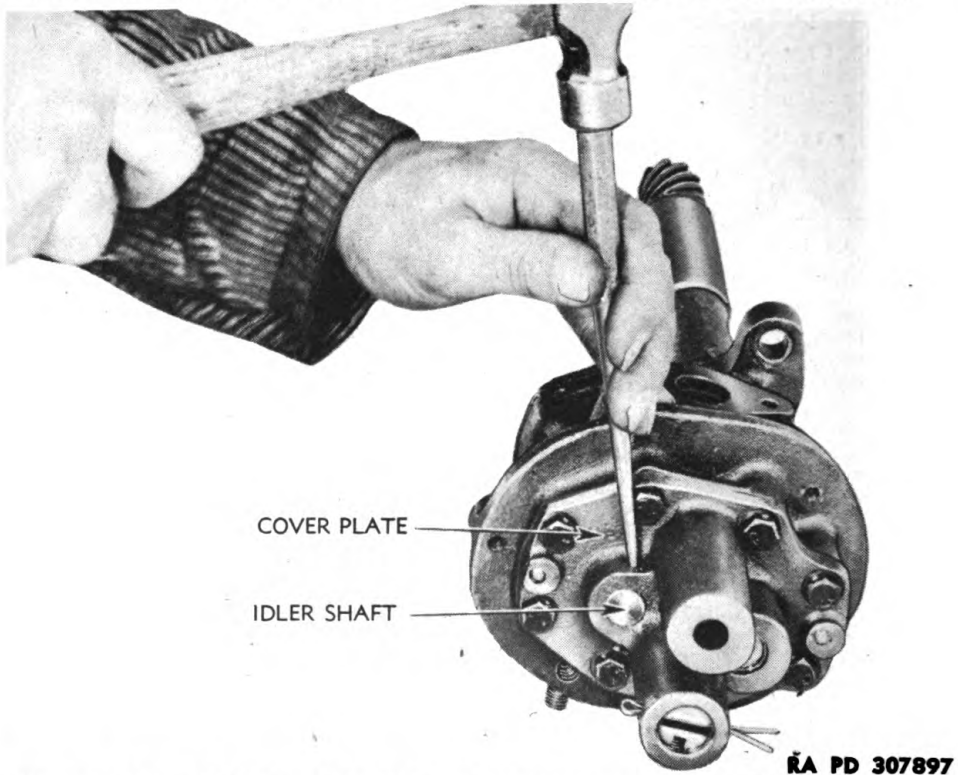

Figure 90 — Driving Pin Out of Cover and Idler Shaft
(2) **REMOVE BOTTOM COVER PLATE.** Cut and remove lock wire from cover plate cap screws. Drive the straight pin out of plate boss and idler shaft (fig. 90). It will be necessary to file or chip off around the hole at one end of this pin before it can be driven out. Remove the cover plate retaining cap screws and pry the plate from the pump body with a large screwdriver. The gasket, of course, will
(3) **INSTALL BOTTOM COVER PLATE.** Turn pump bottom side up and slip pump idler gear into body on the idler shaft. Tap the two taper dowels into bottom cover if they were removed. Place new gasket on pump body and place bottom cover over the stub ends of the drive shaft and idler shaft. Install eight cap screws in cover and pump body, tighten them evenly. Thread lock wire through heads of cap screws and twist ends. Line up drilled hole in idler shaft with hole in cover and insert pin (fig. 90). Peen ends of pin. Peen edges of dowel holes in cover over dowels.